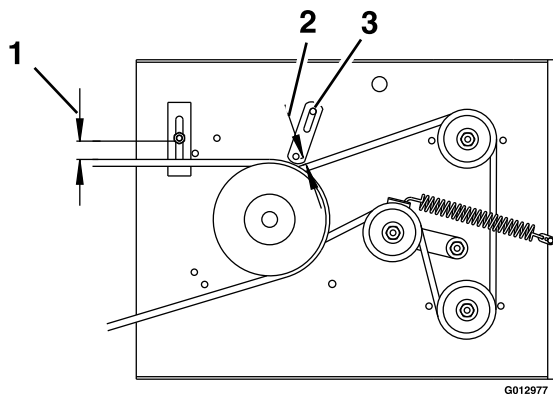
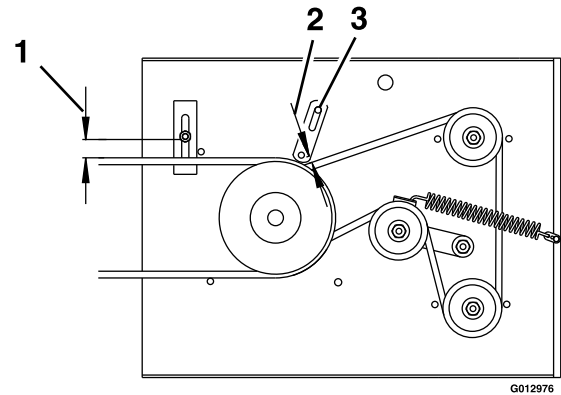

Figure 19
Figure 20
3. Check belt guide under the engine deck for proper adjustment (see Figure 19 and Figure 20). Adjust as necessary.